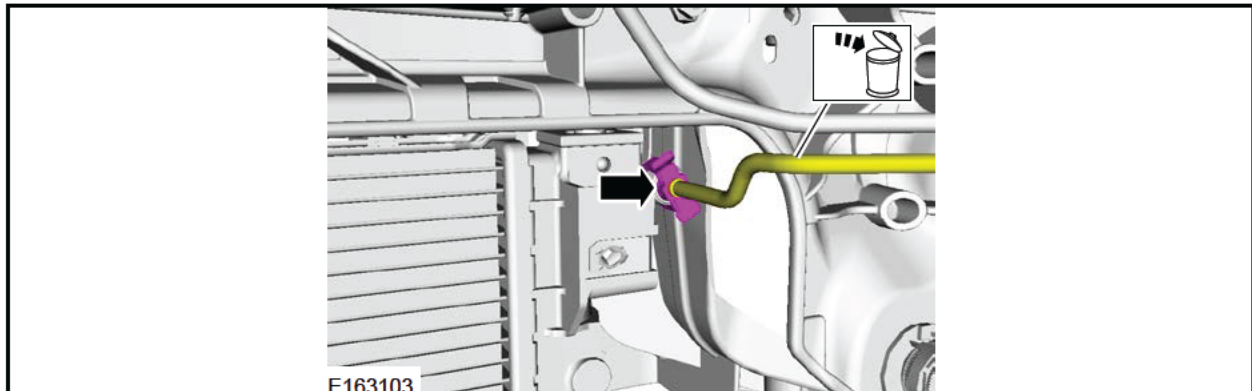

FIGURE I4
3. Disconnect the degas bottle coolant hose from the radiator and discard. See Figure I4.